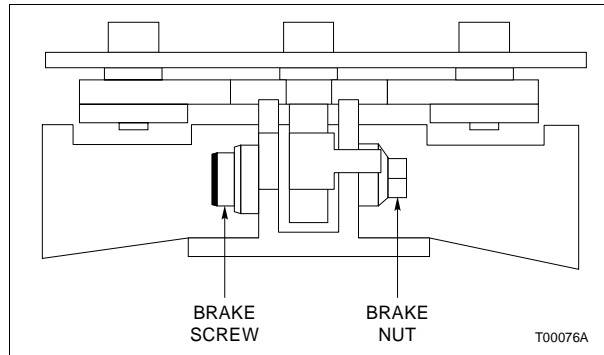

Figure PR63-2. Swivel/Tilt Brake Adjustment
4. Reach into the opening left vacant by the panel control and while using the M4 Allen wrench to hold the brake screw in place, use the 10-mm open-end wrench to tighten or loosen the brake nut as desired (Fig. PR63-2).